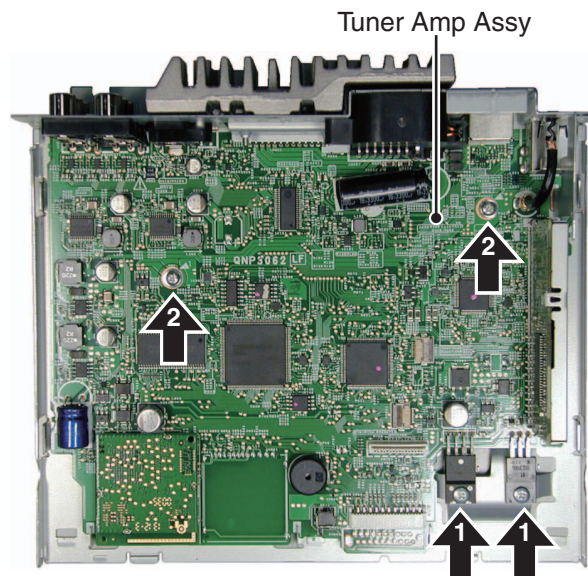

Fig.3
● Removing the Tuner Amp Assy (Fig.3)
4. As shown in Fig 3, move the rear end of the feeding screw laterally and then upward, to remove it from the outer holder.